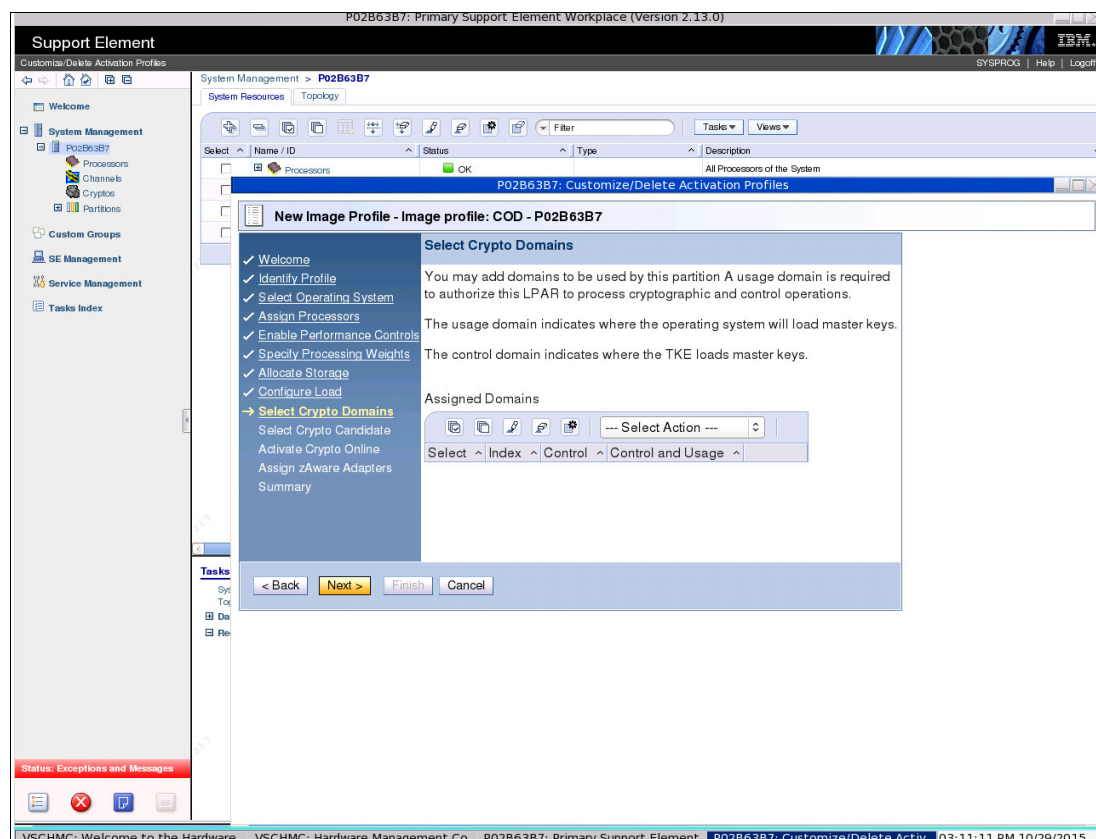

Figure 5-39 Crypto domains selection
11. We do not specify any Crypto domains for the COD z/OS driving system LPAR because it is not required now (see Figure 5-39). Then, we click **Next**.